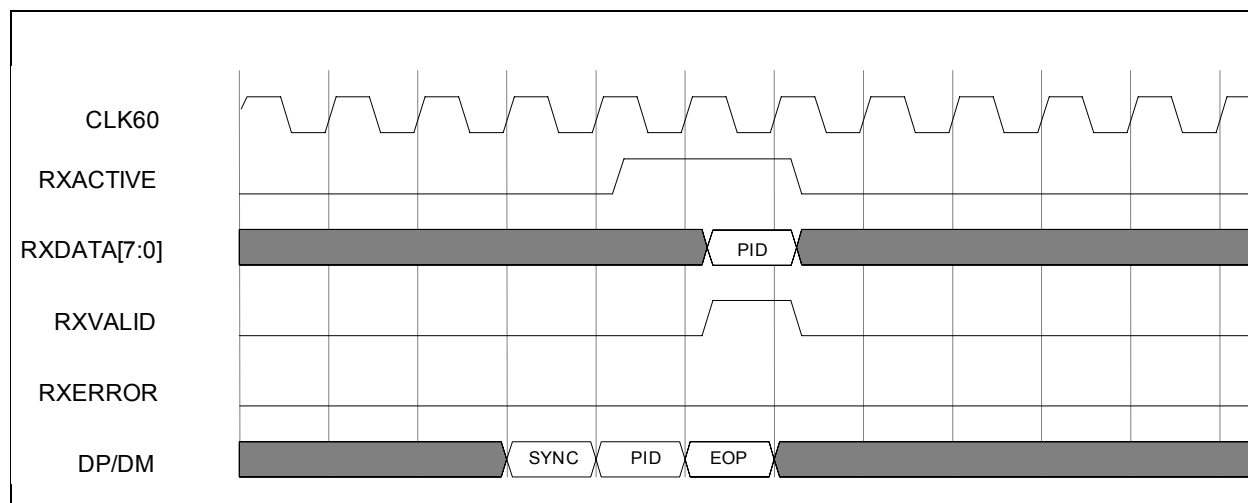
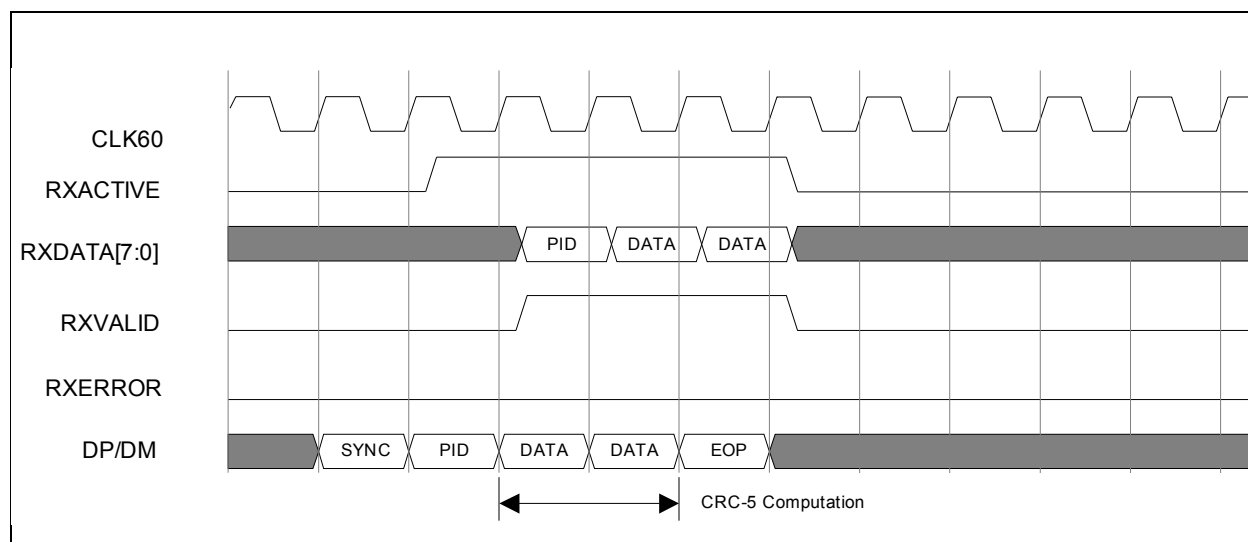
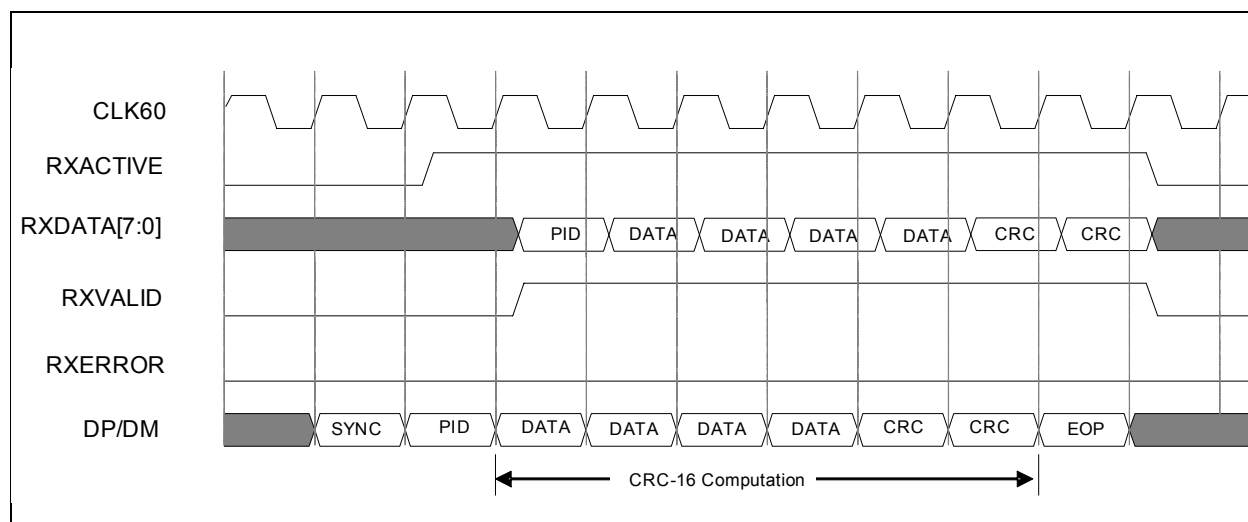

Figure 7.10 Receive Timing for Data (with CRC-16 in 8-bit mode)
Figure 7.11 Receive Timing for Setup Packet (8-bit mode)
Figure 7.12 Receive Timing for Data Packet with CRC-16 (8-bit mode)
- Figure 7.10 shows the timing relationship between the received data (DP/DM), RXVALID, RXACTIVE, RXERROR and RXDATA signals.
Note 7.2 Figure 7.10, Figure 7.11 and Figure 7.12 are timing examples of a HS/FS Macrocell when it is in HS mode. When a HS/FS Macrocell is in FS Mode (8-bit mode) there are approximately 40 CLK60 cycles every byte time. The Receive State Machine assumes that the SIE captures the data on the RXDATA bus if RXACTIVE and RXVALID are asserted. In FS mode, RXVALID will only be asserted for one CLK60 per byte time.
Note 7.3 Figure 7.10, Figure 7.11 and Figure 7.12 the SYNC pattern on DP/DM is shown as one byte long. The SYNC pattern received by a device can vary in length. These figures assume that all but the last 12 bits have been consumed by the hubs between the device and the host controller.